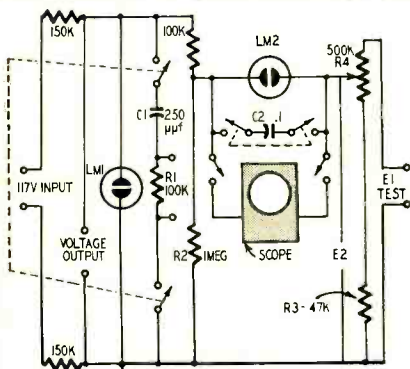

Fig. 1—Versatile neon lamp circuit.
**T**HE neon lamp is versatile and inexpensive. It can regulate and indicate voltages, it can oscillate and can show the presence of light, X-rays, and other radiations. This circuit (Fig. 1 from U.S. Patent No. 2,682,636 issued to Jerome Brewer of Kansas City, Mo.) combines many useful functions of a neon lamp into a single instrument, simple enough to be used as a classroom demonstrator of electronic principles.